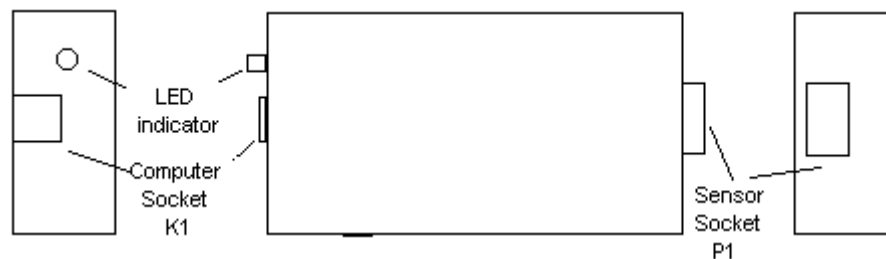

Fig. 1. OXY-TEST 2000M module - side view (LH), top view, side view (RH), front view
| Fig. 1. OXY-TEST 2000M module - side view (LH), top view, side view (RH), front view | 3 |
The *OXY-TEST 2000M* module (\Rightarrow Fig. 1) measures, using a non-invasive method, percentage oxygenation of arterial haemoglobin (SpO₂), heart rate (HR), and displays plethysmographic waves. The phenomenon of light absorption by blood flowing through pulsing arteries is used to determine oxygen saturation and heart rate. Measurement results are displayed digitally on the monitor screen. Time trends of HR and SpO₂ values are also determined.
1. K1 (\Rightarrow Fig. 1) is a USB socket for PC connection. The socket should be connected to the USB socket of the PC.
2. P1 (\Rightarrow Fig. 1) is a 9-pin Canon connector to connect the cable with a fingertip sensor.